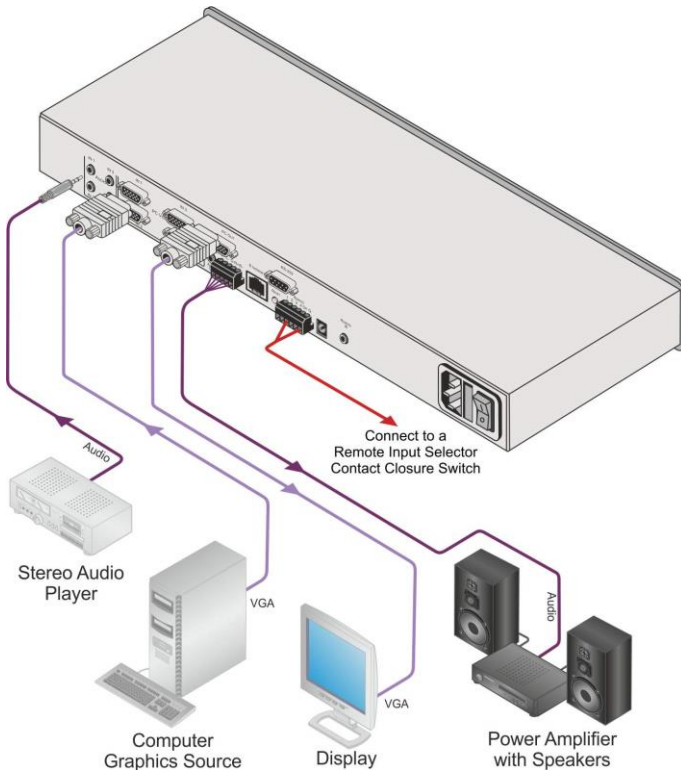

Figure 3: Connecting the VP-4x1CS 4x1 PC Graphics Clean Switcher
To connect the VP-4x1CS 4x1 PC Graphics Clean Switcher as illustrated in the example in Figure 3:
8. Connect the device to the mains electricity (not shown in Figure 3) and power the device on.